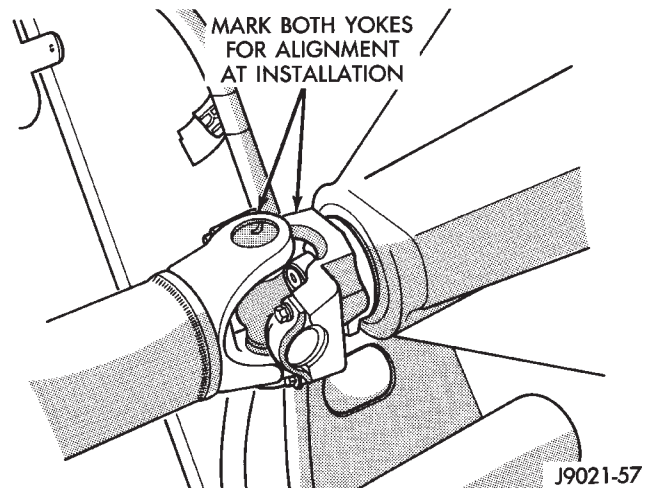

Fig. 7 Marking Propeller Shaft And Axle Yokes
(11) Mark front and rear propeller shafts for installation alignment (Fig. 7). Then remove both shafts.